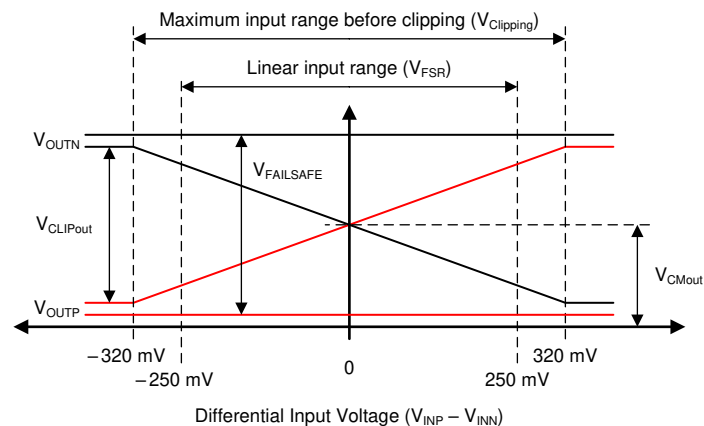

Figure 7-2. Output Behavior of the AMC3301-Q1
The AMC3301-Q1 offers a differential analog output comprised of the OUTP and OUTN pins. For differential input voltages ($V_{INP} - V_{INN}$) in the range from -250 mV to $+250$ mV, the device provides a linear response with a nominal gain of 8.2. For example, for a differential input voltage of 250 mV, the differential output voltage ($V_{OUTP} - V_{OUTN}$) is 2.05 V. At zero input (INP shorted to INN), both pins output the same common-mode output voltage V_{CMout} , as specified in the Electrical Characteristics table. For absolute differential input voltages greater than 250 mV but less than 320 mV, the differential output voltage continues to increase in magnitude but with reduced linearity performance. The outputs saturate at a differential output voltage of $V_{CLIPout}$ as shown in Figure 7-2 if the differential input voltage exceeds the $V_{Clipping}$ value.
The AMC3301-Q1 provides a fail-safe output that simplifies diagnostics on system level. Figure 7-2 shows the fail-safe mode, in which the AMC3301-Q1 outputs a negative differential output voltage that does not occur under normal operating conditions. The fail-safe output is active in two cases:
- The low-side does not receive data from the high-side (for example, because of a loss of power on the high side). In this case, the amplifier outputs are driven to the V_{FAILSAFE} value that is shown in Figure 7-2.
- The high-side DC/DC output voltage (DCDC_OUT) or the high-side LDO output voltage (HLDO_OUT) drop below their respective undervoltage detection thresholds (brown-out). In this case, the low-side may still receive data from the high-side but the data may not be valid. The amplifier outputs are driven to the V_{FAILSAFE} value that is shown in Figure 7-2.